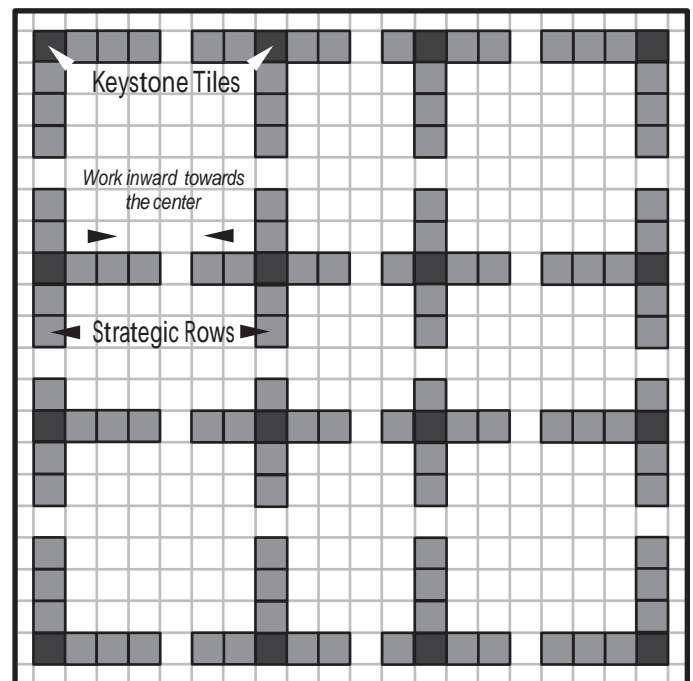

Fig. 5
- Install strategic rows of tiles beginning at opposite ends of the keystone tiles working inwards towards the center (**Fig. 5**).